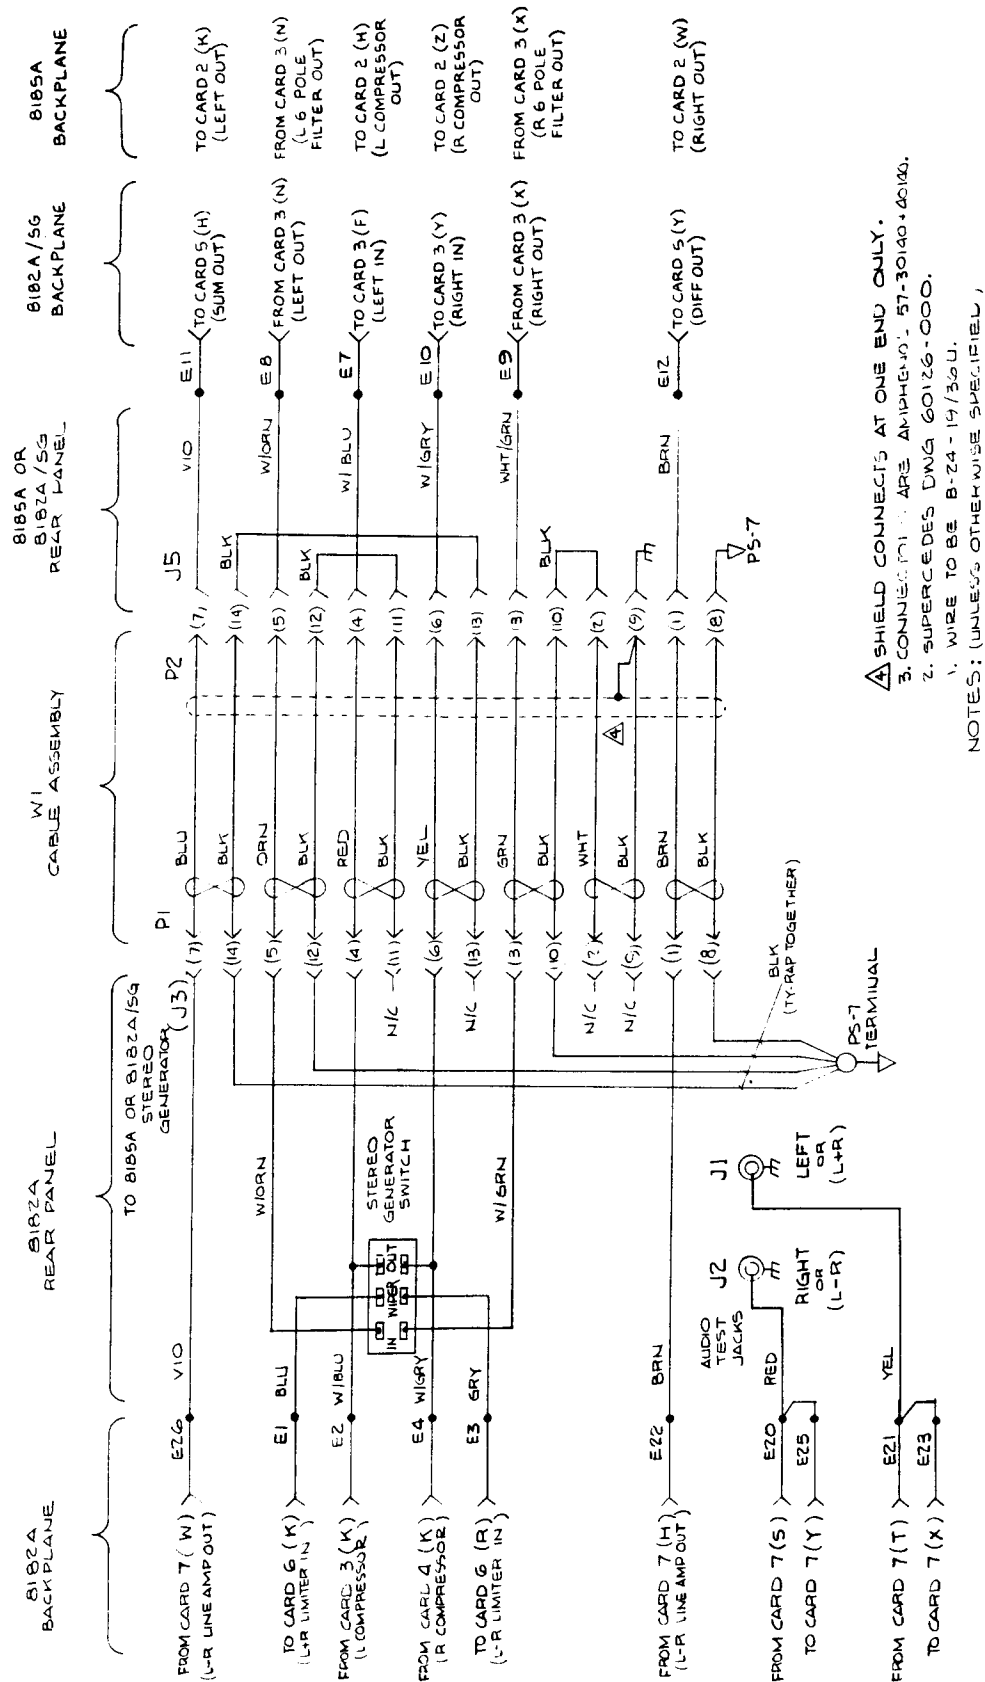

Fig. 2-15: Accessory Port Wiring Diagram, 8182A Audio Processor
Fig. 2-15 supersedes the drawing in Appendix G of the 8182A Operating Manual (you may want to insert a copy of the new drawing in place of the old).
- 32) Check your work carefully against Fig. 2-15.